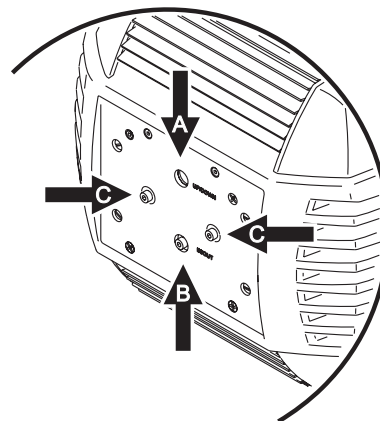

Figure 6: Lamp adjustment screws
2. See Figure 6. Center the hot spot vertically using the top Allen-head adjustment screw (A) in the center of the rear plate. Center the hot spot horizontally using the side-to-side adjustment screws (C).
3. If there is an excessive hot spot, turn the bottom adjustment screw (B) counterclockwise until the light is evenly distributed. If the light is brighter around the edge than it is in the center, or if light output is low, turn the bottom adjustment screw (B) clockwise until the light is bright and evenly distributed.